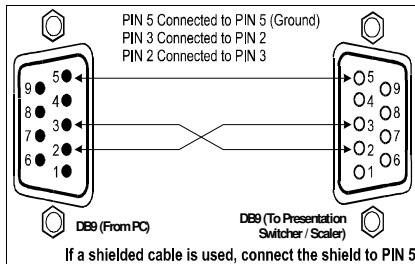

Figure 6: Connecting the PC
- Connect the RS-232 DB9 port on your PC to the RS-232 DB9 rear panel port on the **VP-727** unit, forming a cross-connection¹, as Figure 6 illustrates